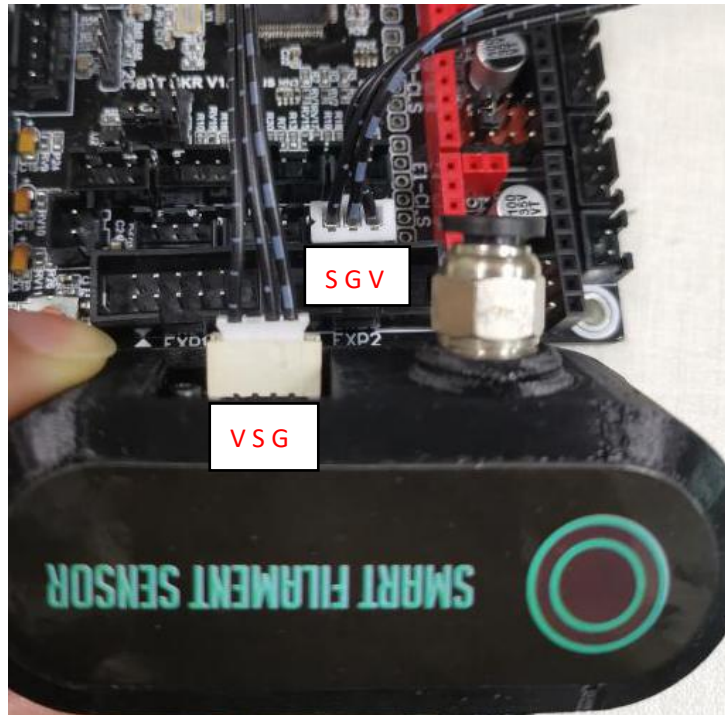

figure 13
1) Take SKR V1.3 (figure 13) as an example